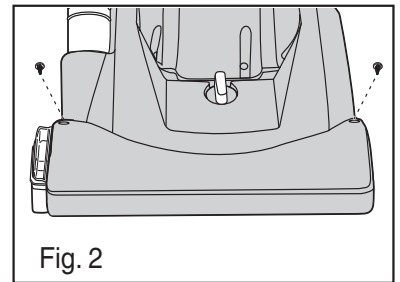

Fig. 2
2) Remove 2 screws from the front side of brush roll cover (Fig. 2).
7) Replace brush roll cover (Fig. 2).
- 2) Base hose – remove 2 screws and brush roll cover. Clear blockage from base hose. Check for debris in brush roll and replace screws and cover (Fig 2).